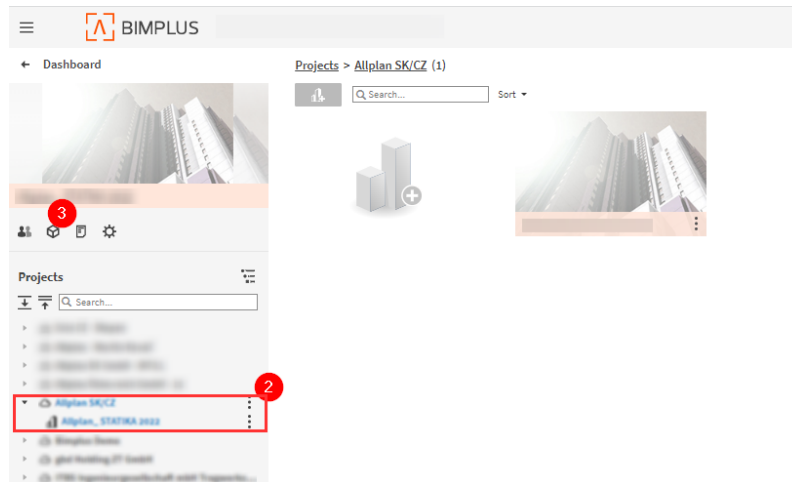

Figure 42: Open right team and project on Bimplus
2. In the project menu, select the right team and project you want to work in. (Project, where is stored model with the created issue). (Figure 42)
3. Then click on the model icon to see available models in the project. (Figure 42)
Team management and assignment of SCIA AutoConverter licenses is done on Bimplus. From SCIA AutoConverter you can go to Bimplus using the link in the hamburger menu (see chapter Introduction) or through the direct link here Bimplus portal. When you are logged in, make sure that you have activated your team. Active team and project you can see at the top bar, next to the Bimplus logo. To change the active team, see Figure 42.